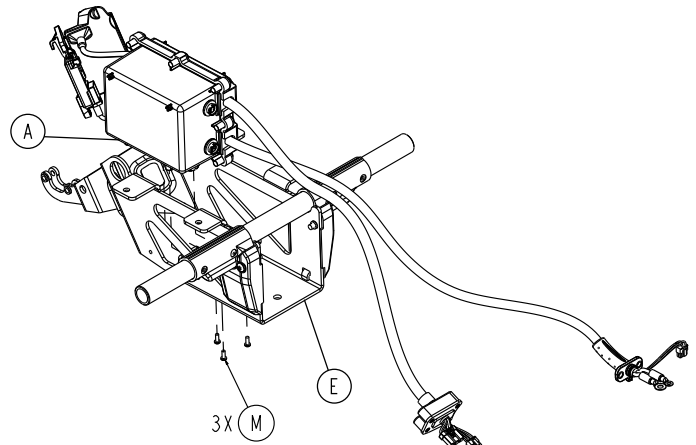

Figure 52 – Remove the HBC enclosure assembly screws
6. Using a T20 Torx driver, remove the three pan head tapping screws (M) that secure the HBC enclosure assembly (A) to the birdcage (E) (Figure 52). Save the screws.